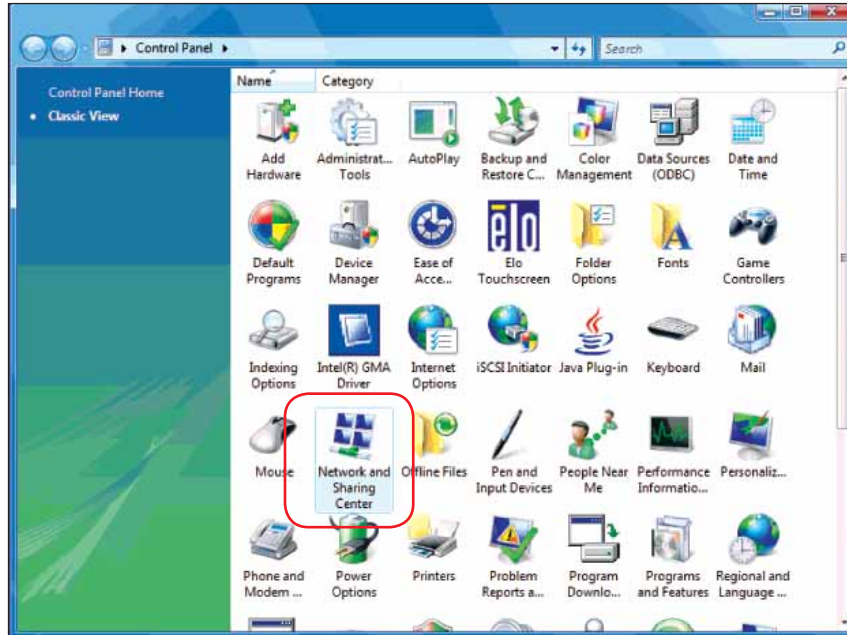

Figure 15-2. Selecting Network and Sharing Center.
2. Click on **Network and Sharing Center** (Figure 15-2).